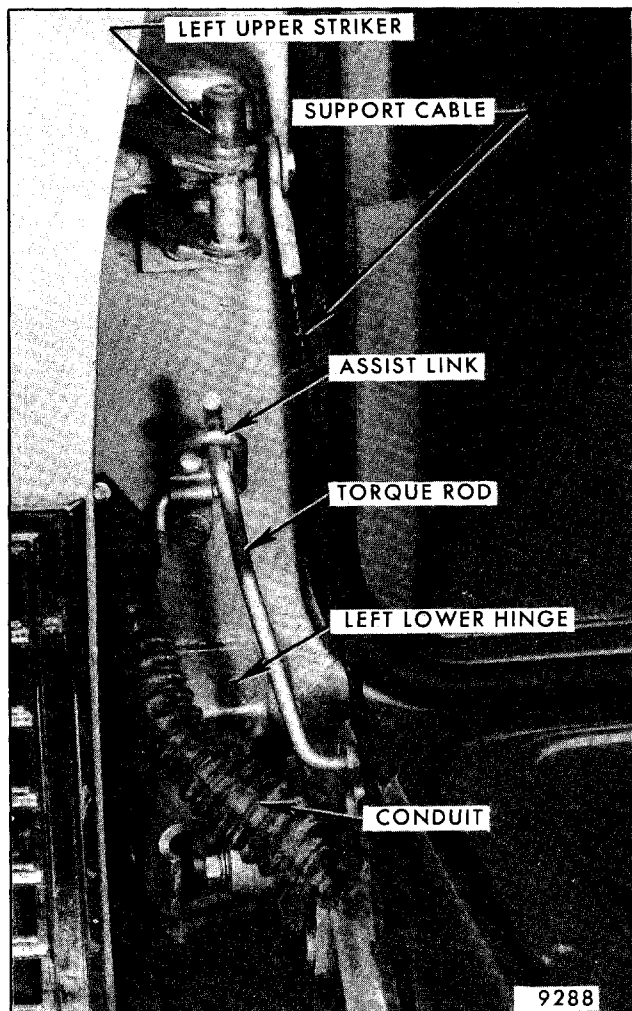

Fig. 7-144 - Tailgate Left Upper and Lower Lock Assemblies
TAILGATE LEFT LOWER HINGE ASSEMBLY (Figs. 7-144 and 7-145)
TAILGATE LEFT UPPER HINGE AND STRIKER ASSEMBLY - BODY SIDE (Fig. 7-144)
1. Open tailgate sufficiently as a door to achieve a neutral torque rod position or until tension on torque rod has been relieved. With torque rod in a neutral position, remove torque rod assist link retainer to body attaching bolts (Fig. 7-144). Close tailgate and open as a gate.
4. With the aid of a helper, remove left lower hinge to body attaching bolts (Fig. 7-144) and disconnect electrical harness connector. Remove screws retaining electrical conduit at body attachments.